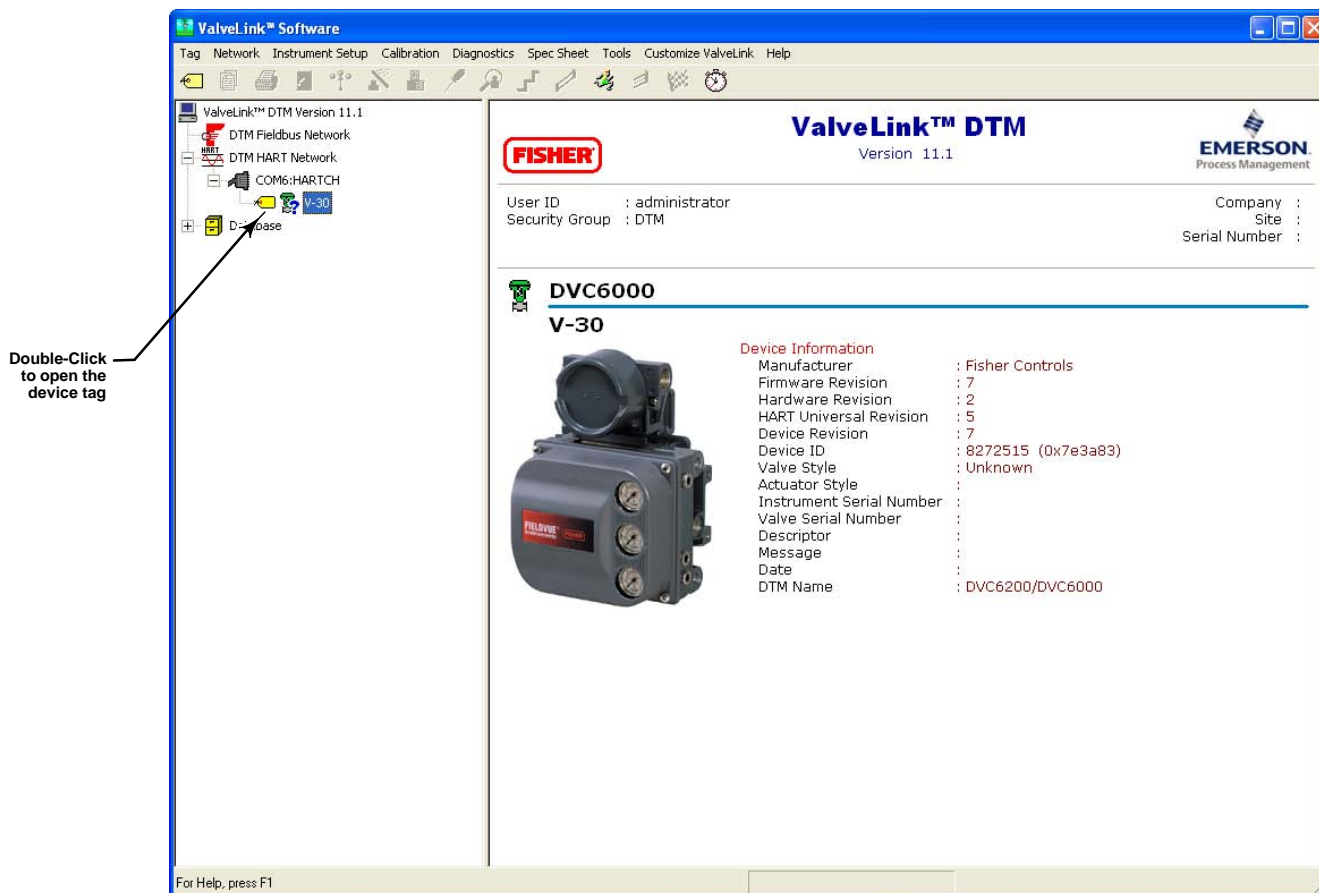

Figure 4-7. ValveLink DTM
**Step 7:** The ValveLink DTM will launch in a new window. All devices currently connected in the FDT frame application will show in the tree menu to the left of the ValveLink DTM window, as shown in figure 4-7. Double-click the device to open the device tag.